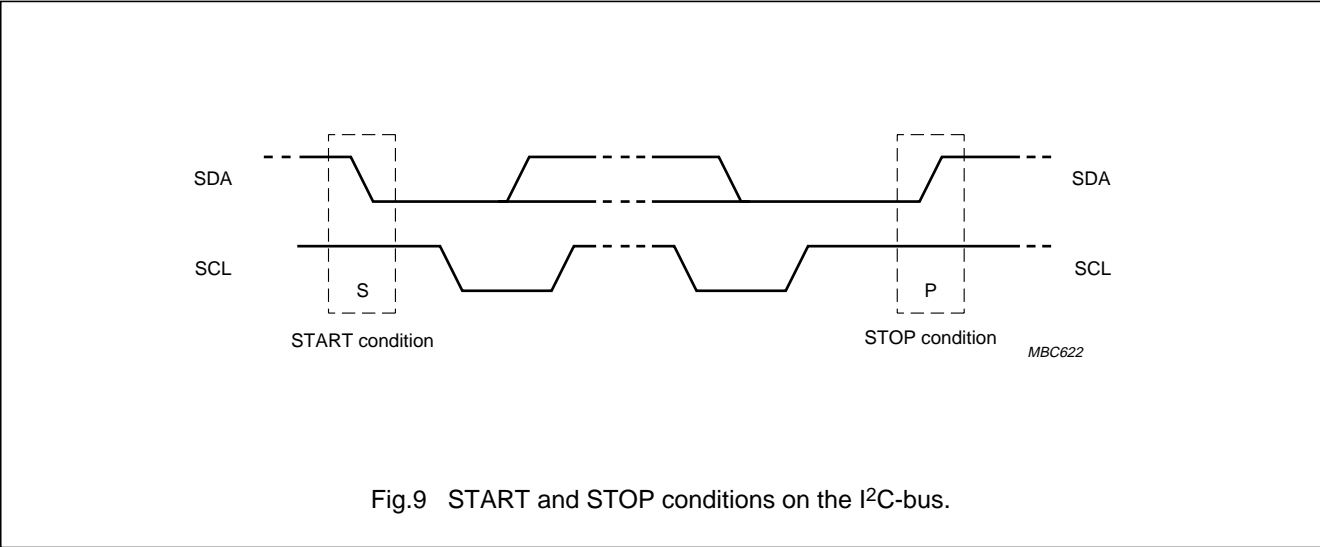

Fig.9 START and STOP conditions on the I²C-bus.
Both data and clock line will remain HIGH when the bus is not busy. A HIGH-to-LOW transition of the data line, while the clock is HIGH, is defined as a start condition (S); see Fig.9. A LOW-to-HIGH transition of the data line while the clock is HIGH is defined as a stop condition (P).